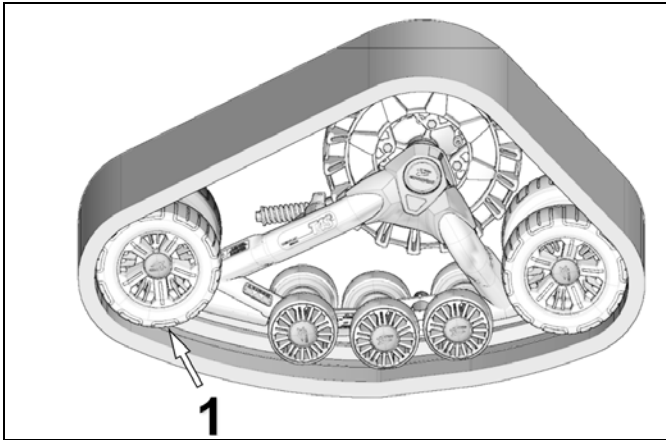

Figure 34
- Re-install the 241 mm wheels. See Figure 34.